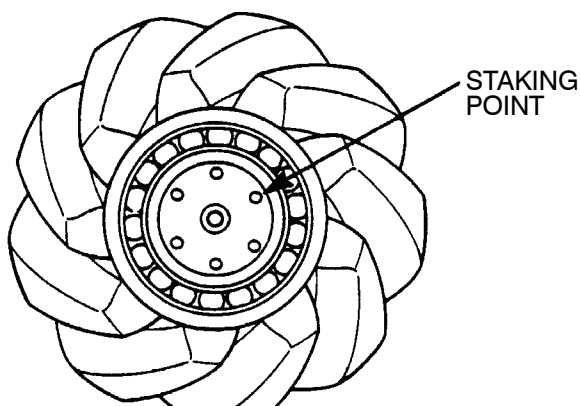

Figure 111.
- (3) To retain the spigot bearing on the pinion end, stake the pinion at six points, as shown, using a proper staking tool. Figure 111.